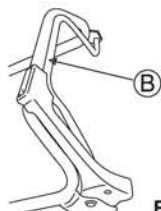

Fig. 19
4. Push Drive clutch lever (B) forward to start mowing. (See Fig. 19)